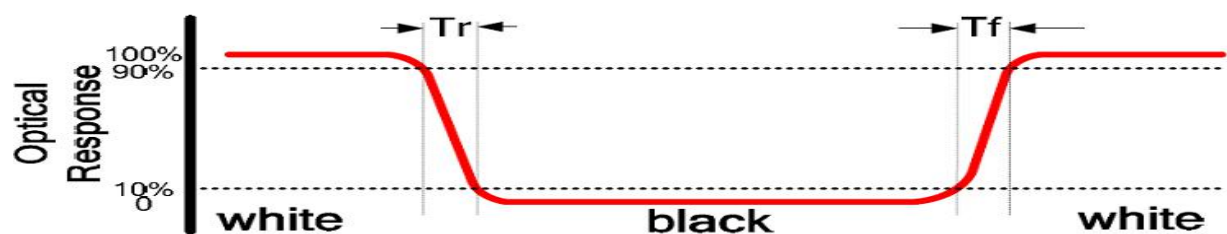

FIG2. Measuring method for Contrast ratio, surface luminance, Luminance
Note2.contrast Ratio(CR) is defined mathematically by the following formula ,For more information see FIG2.
Note5. Surface luminance is the LCD surface luminance with all white pixels, For more information see FIG2.
Note6. CIE(X,Y)chromaticity is the Center point value. For more information see FIG2.